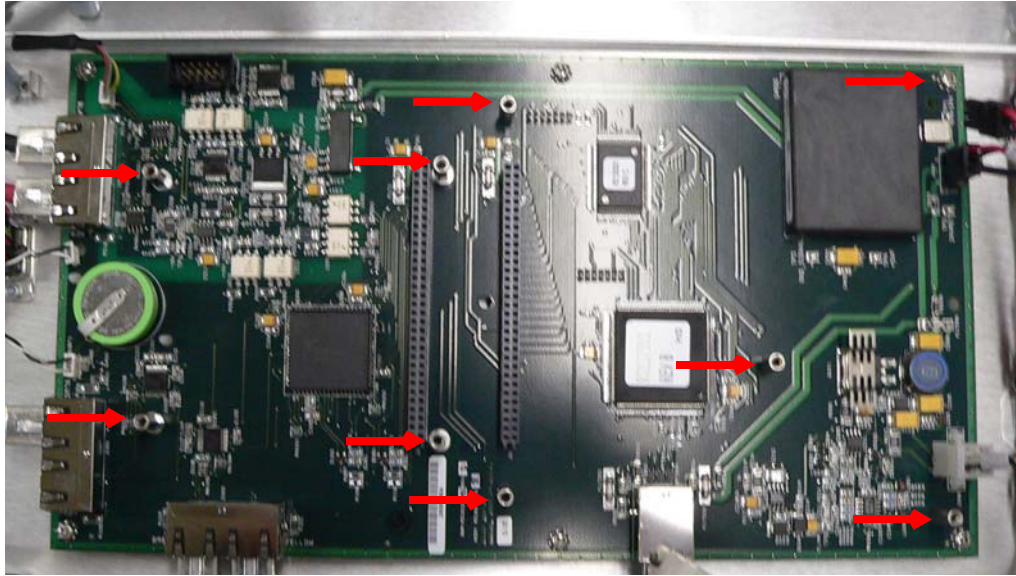

Figure B-35 Mother Board Spacers
6. Remove the nine (9) sets of spacer hardware that separated the smaller boards from the Mother board (Figure B-35).
11. Reinstall the nine (9) sets of spacer hardware that separated the smaller boards from the Mother board (Figure B-35 on page B-25).